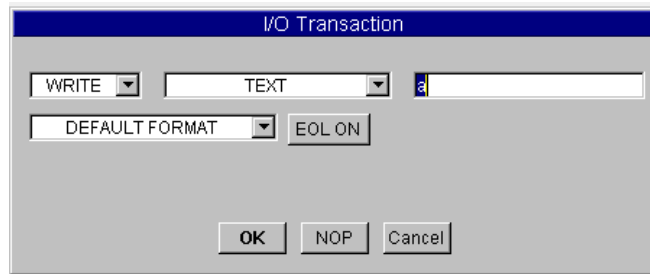

Figure 3-17. The I/O Transaction Dialog Box
1. In the `fgen (@ (NOT LIVE) )` object, double-click the transaction bar to get the `I/O Transaction` dialog box, as shown in Figure 3-17.